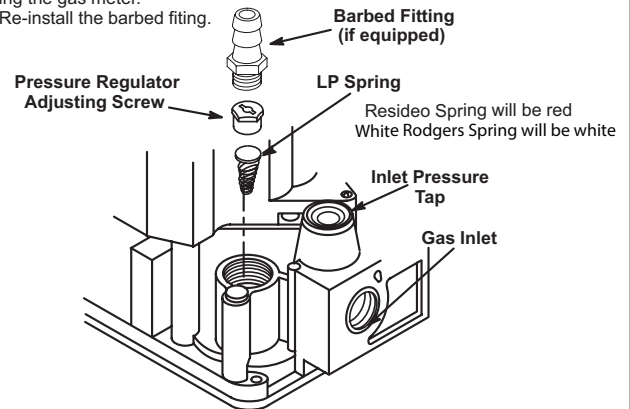

FIGURE 9
- 6 - Replace the gas valve regulator spring. See figure 9 and 10. Make note of the regulator spring color. Resideo spring 29M8501 is red and White Rodgers spring 28G6101 is white. Sanhua valves do not require a spring change.